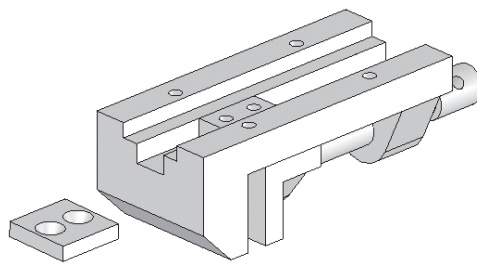

Figure 12-70 Clamping Plate after rotating
3. Select the Clamping Plate using the right mouse button and drag the cursor to rotate it, as shown in Figure 12-70.